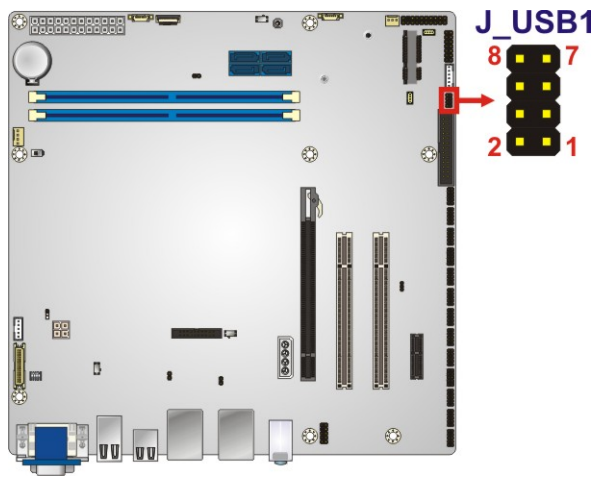

Figure 3-33: USB 2.0 Connector Locations
- CN Location:** See **Figure 3-33**